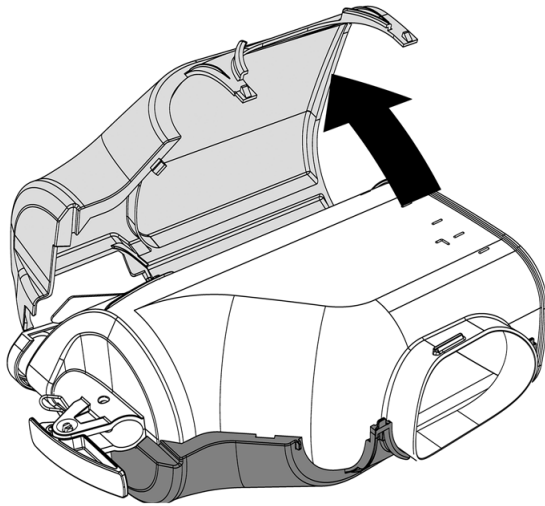
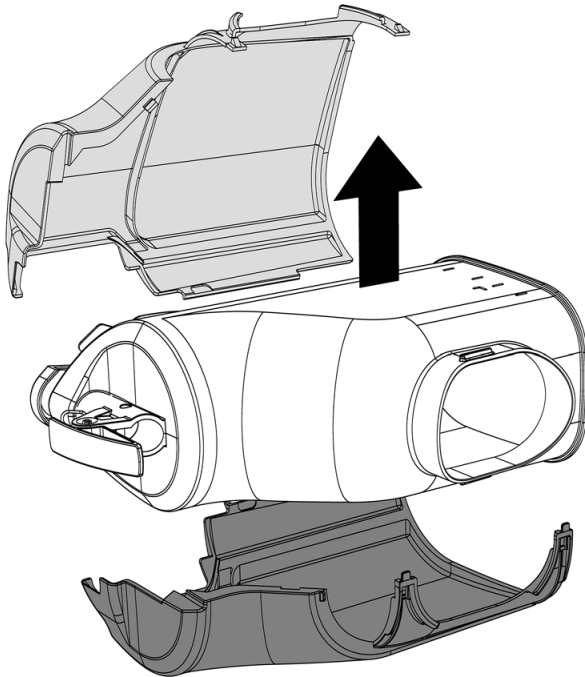

figure 5
figure 6
**2** Remove the left-hand part and then the right-hand part of the recover. (see figure 5) (see figure 6).